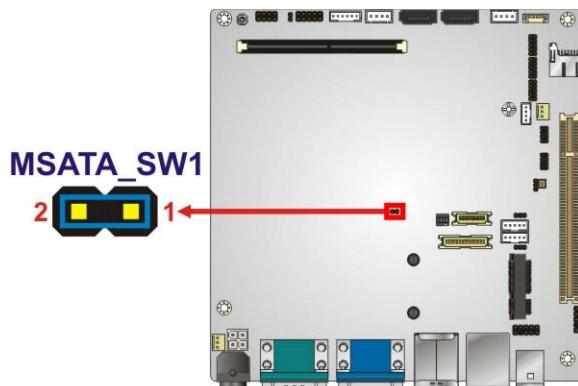

Figure 4-8: PCIe Mini/mSATA Mode Selection Jumper Location
**Jumper Location:** See **Figure 4-8**